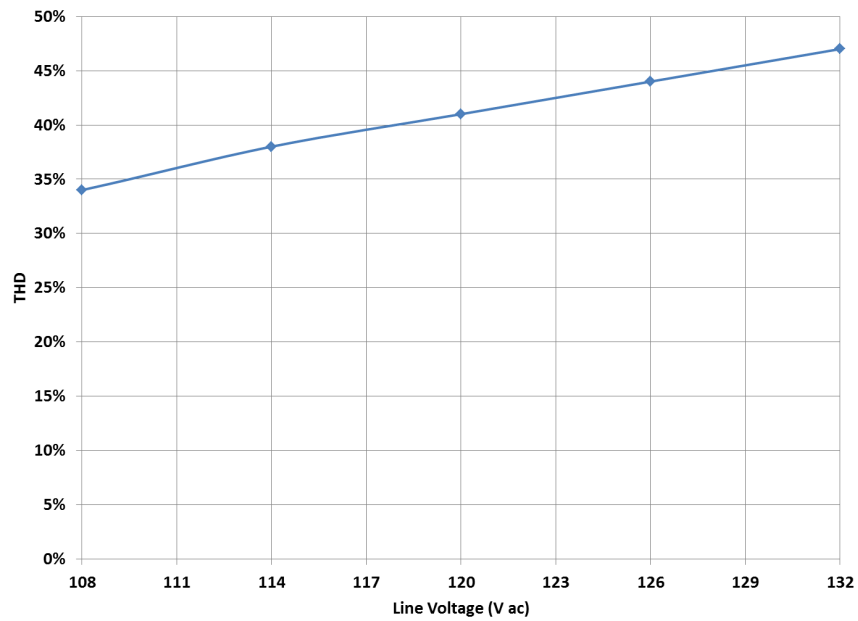

Figure 10. THD Over Line
1. Connect the LED Load to the red(+) and black(-) leads through the ammeter shown in Figure 10.